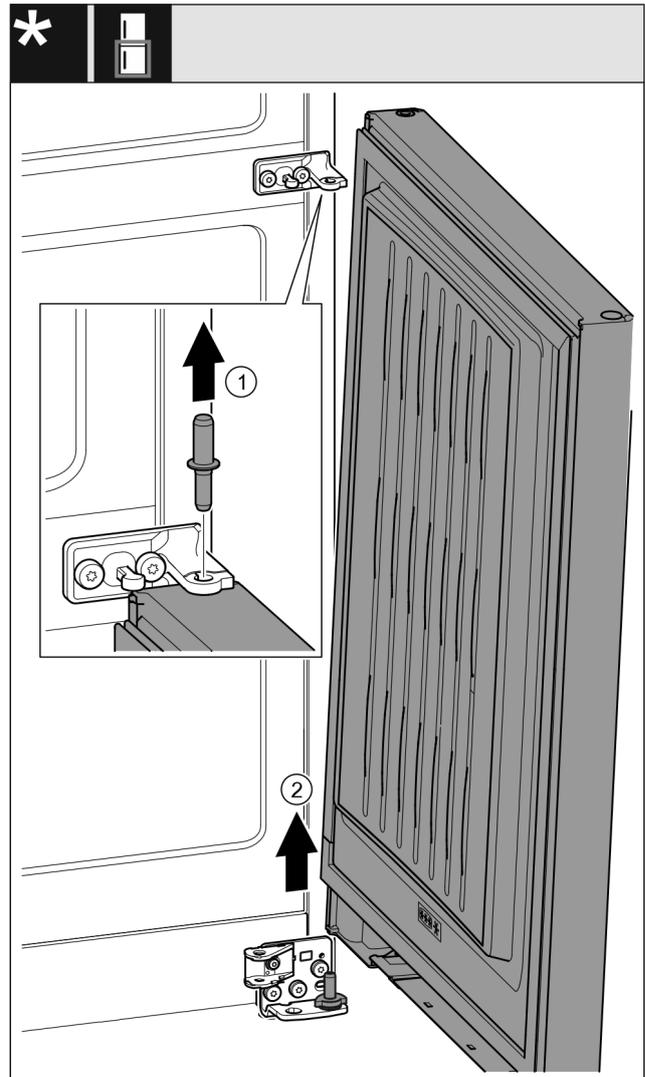

Fig. 29 With closing damper*
- ▶ Pull out the bolt Fig. 29 (1) upwards.*
- ▶ Swing out the door Fig. 29 (2), pull it upwards and set it aside.*